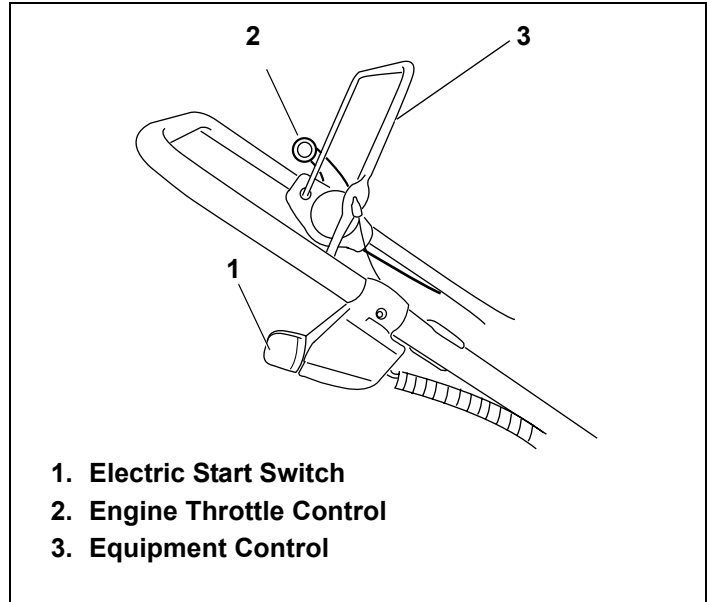

Figure 12. Typical Engine Controls
2. Move engine throttle control to "FAST" position, if present (see equipment manufacturer's instructions). See Figures 12 and 13.
4. Operate equipment control to release engine brake or clutch, if present (see equipment manufacturer's instructions). See Figure 12.
2. Move engine throttle control to “CHOKE” or “START” position, if present (see equipment manufacturer’s instructions). See Figures 12, 13 and 16 starting on page 7. Afterward, continue reading instructions below.
*If restarting a warm engine after a short shutdown, move engine throttle control to “FAST” position instead of “CHOKE” or “START” position. See Figures 12, 13 and 16 starting on page 7. Afterward, continue reading instructions below.*
3. Operate equipment control to release engine brake or clutch, if present (see equipment manufacturer’s instructions). See Figure 12 on page 7. Afterward, continue reading instructions below.
- b. Move engine throttle control to “FAST” position. See Figures 12, 13 and 16 starting on page 7. Afterward, continue reading instructions below.
- a. Move engine throttle control back to “CHOKE” position. See Figures 12, 13 and 16 starting on page 7. Afterward, continue reading instructions.
- b. Next, move engine throttle control to “FAST” position. See Figures 12, 13 and 16 starting on page 7. Afterward, continue reading instructions below.